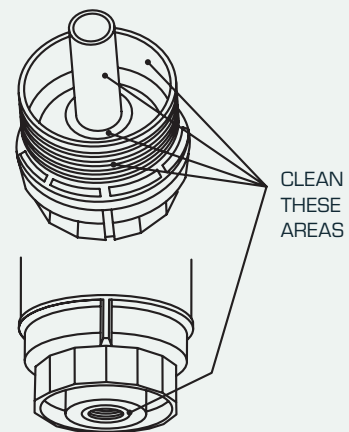

FIGURE 5
- 5 Areas shown to be cleaned prior to assembly. Refer to FIG.5.